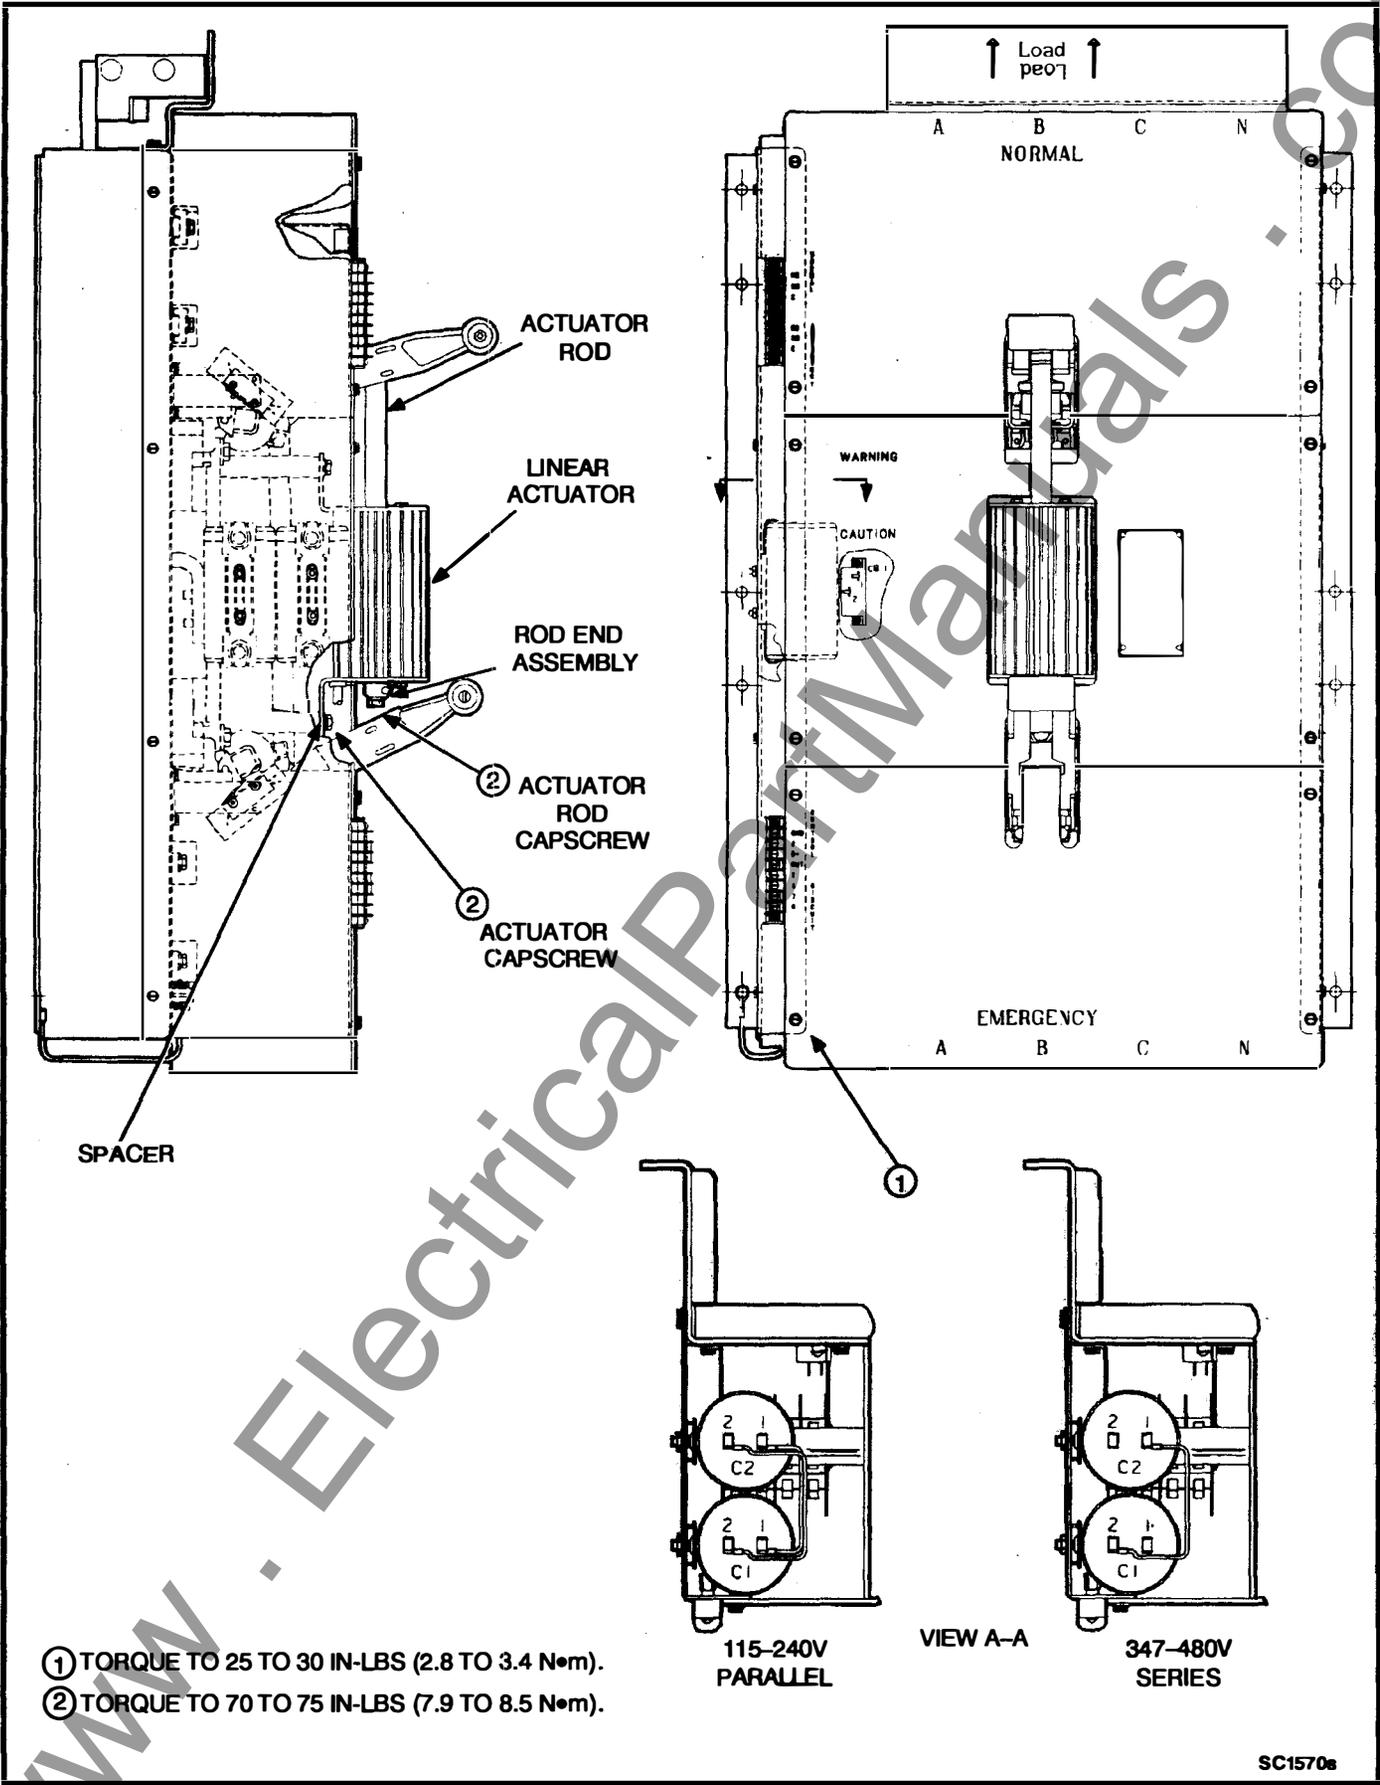

FIGURE 4-16. TRANSFER SWITCH COVER (800 - 1000 AMPERES)
3. Remove the rod end assembly (Figure 4-16) and slide the actuator rod out of the actuator motor.
4. Loosen and remove the twelve machine screws (with flat washers) that secure the three plastic switch covers to the switch base, and lift off the switch covers (Figure 4-16).
8. Remove the hex head capscrews, flat washers, and lock washers that secure the actuator to the switch assemblies (Figure 4-16) and lift out the spacers and actuator motor.